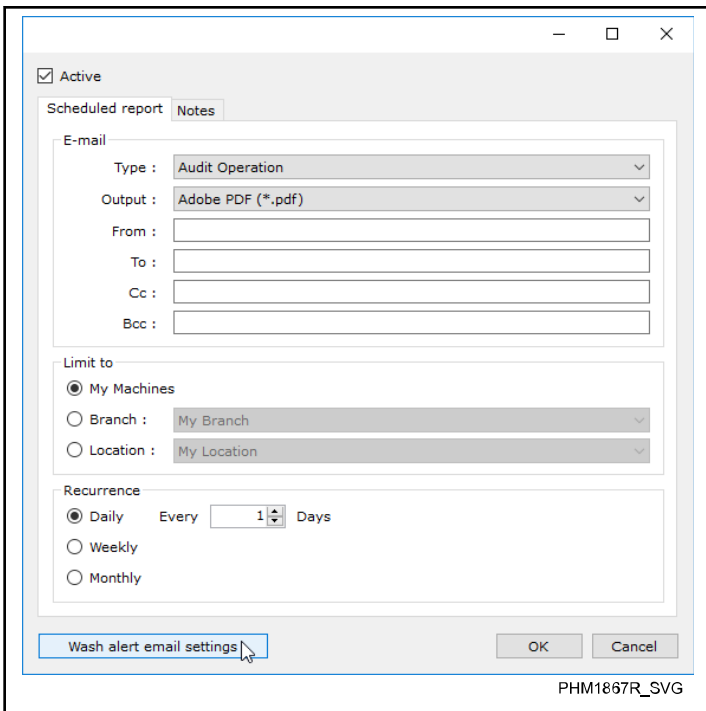

Figure 34
3. At the bottom of the "Scheduled report" window, click the **WashAlert Email Settings** button. Refer to *Figure 34*. The "WashAlert email settings" window opens.